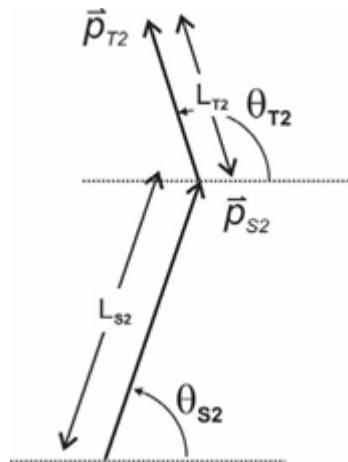

Figure 5: Constructing the momentum arrows representing the momenta of the discs after the collision.
- a) Construct the arrow that represents the **momentum of the striker after the collision**, $\vec{p}_2$, as follows. It might be easier to use graph paper at the back of your report for these constructions. First decide where the arrow's tail is going to be and mark the direction, θ_{s2} , out with a protractor. Then mark the length, L_{s2} , off along this direction - see **figure 5**. Note: Your arrows may point in other directions, but the construction will be similar – head-to-tail. Add an arrowhead at the end and write the vector symbol $\vec{p}_2$ next to it. This arrow represents the momentum of the striker after the collision.